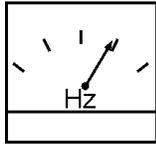

Figure 41. Frequency Meter
5. The generator's frequency meter (Figure 41) should be displaying the 60 cycle output frequency in **HERTZ**.